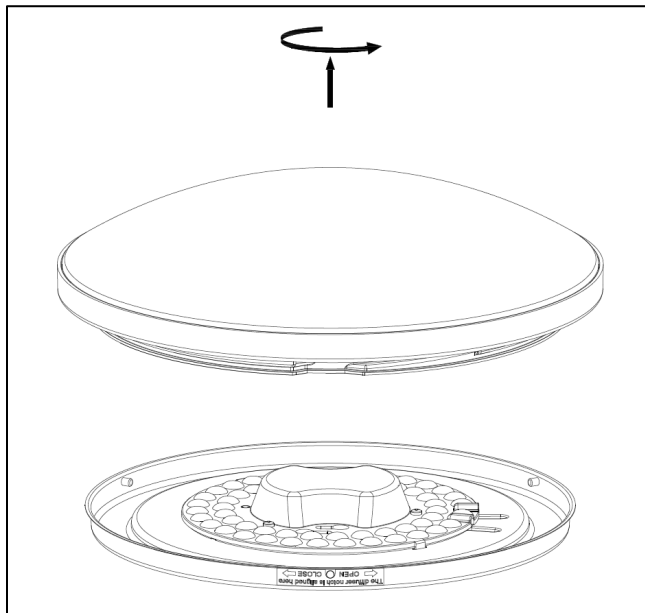

Figure 4
5. Remove diffuser (4) by rotating the diffuser toward the OPEN direction from the housing assembly (2). (See Figure 4)
1. Remove diffuser (4) by rotating the diffuser toward the OPEN direction from the housing assembly (2). (See Figure 4)